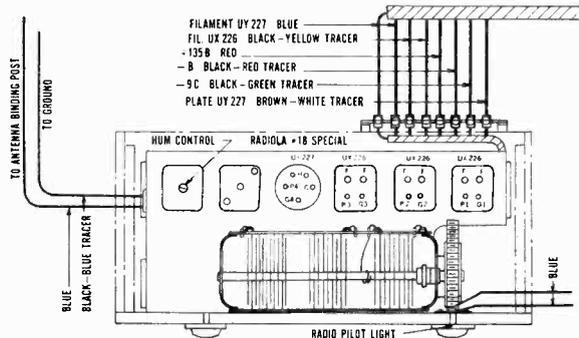

Fig. 1—Radiola Sockets and Terminal Strip
B. GRID TESTS—Using the "C" position of the Weston Radio Set Tester, or the high scale of the separate voltmeter, test the "C" voltage in all sockets except the detector. When using the separate voltmeter, place the negative lead in the "G" socket contact as shown in Fig. 1, and the positive